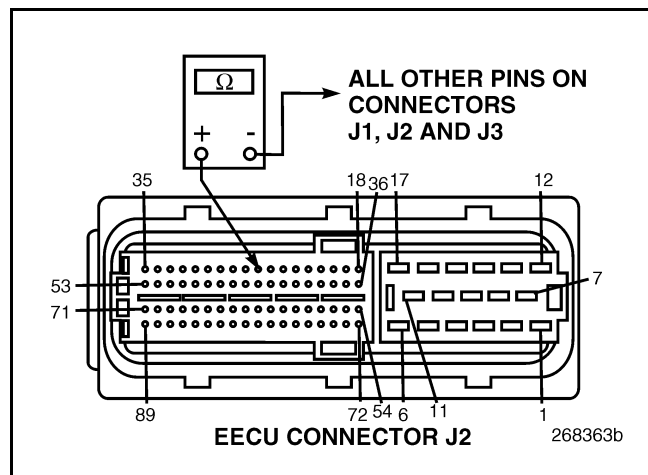

Figure 501
4. Check for continuity between EECU harness connector J2 pin 26 (reference voltage line) and all other pins in EECU harness connectors J1, J2, and J3 (see Figure 501).